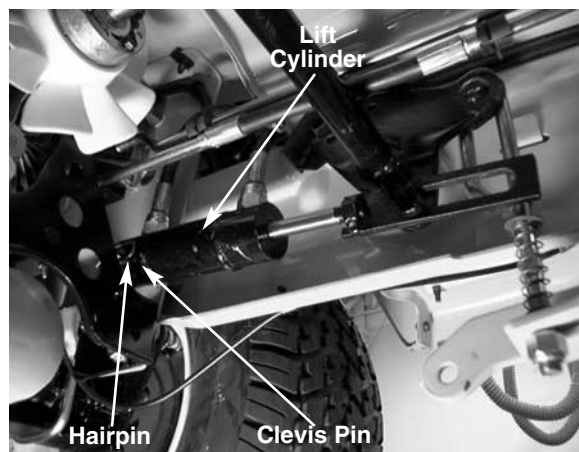

FIGURE 1.
2. Remove the hairpin from the clevis pin at the rear of the lift cylinder. See figure 1.